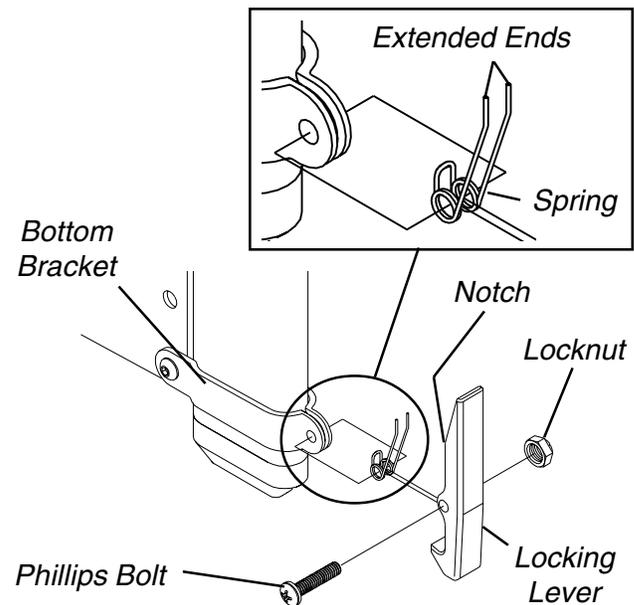

FIGURE 8 - REPLACING THE T-ARM LOCKING LEVER
## REPLACING THE T-ARM LOCKING LEVER (FIGURE 8)
4. Position the spring on the bottom bracket as shown in FIGURE 8.
*NOTE: Make sure the two (2) extended ends of the spring are inside the notch in the locking lever.*